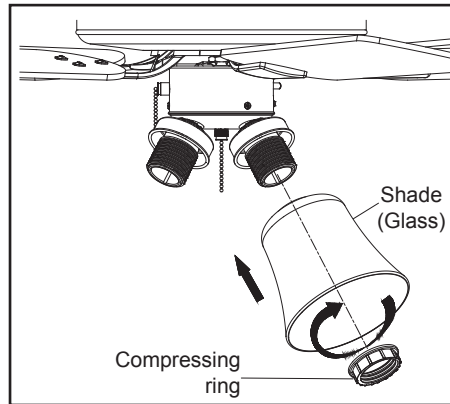

Figure 14
6. With power off, screw the LED bulbs (8.5W, provided) into the sockets. (Figure 14)